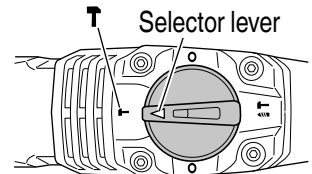

Fig. 16
- (1) Switching to “hammering”
- (b) Align ▲ of the selector lever and T of the crank cover as illustrated in Fig. 16.